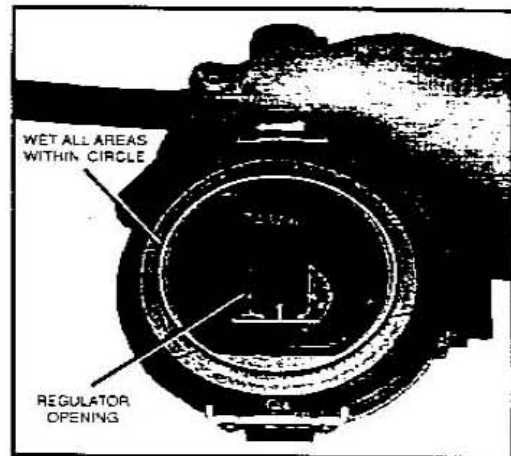

FIGURE 1
3. Inspect the inside of the regulator assembly through the regulator opening (see Figure 1). If dirt or soil is present, forward regulator assembly to Scott trained authorized personnel for thorough cleaning.
4. If clean, depress the donning/air saver switch, close the purge knob by turning fully clockwise and spray a minimum of 6 full pumps of Scott Multi-Wash Mini into the regulator opening. Measure to also wet the immediate area around the opening (see Figure 1). Swirl to completely cover internal components. Turn regulator opening face down and shake excess liquid out. Allow for 10 minutes of contact time to disinfect prior to rinsing.